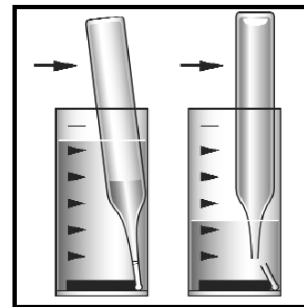

Figure 2
2. Immediately snap the tip by pressing the ezSample Snap Vial (ampoule) against the side of the cup. The ampoule will fill leaving a small bubble to facilitate mixing (Figure 2).